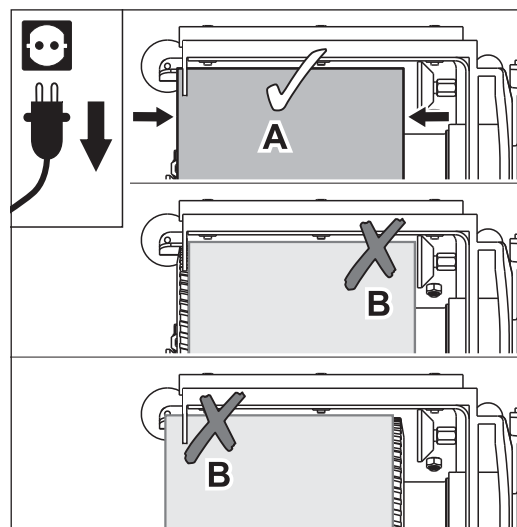

Fig. 39 Position the sanding belt so that it evenly covers the sanding drum (A). Avoid position B without fail (RISK OF FIRE)!
- 7 Position the sanding belt so that it evenly covers the sanding drum (fig. 39, A).
Position B of the sanding belt in fig. 39 provoke sparking during sanding! Avoid this without fail!